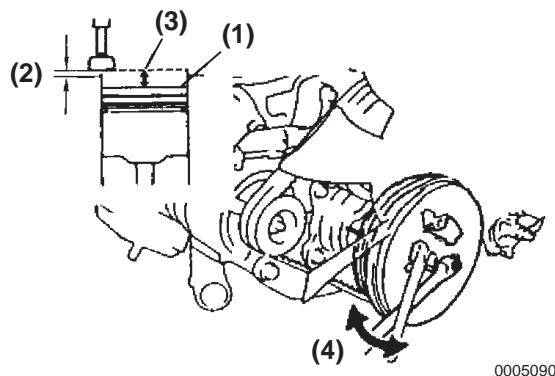

Figure 5-62
4. Determine the position where the piston head (**Figure 5-62, (1)**) is at the upper-most position (TDC) by slowly turning the crankshaft clockwise and counter-clockwise (**Figure 5-62, (4)**).
- Piston protrusion (P) (**Figure 5-62, (2)**):